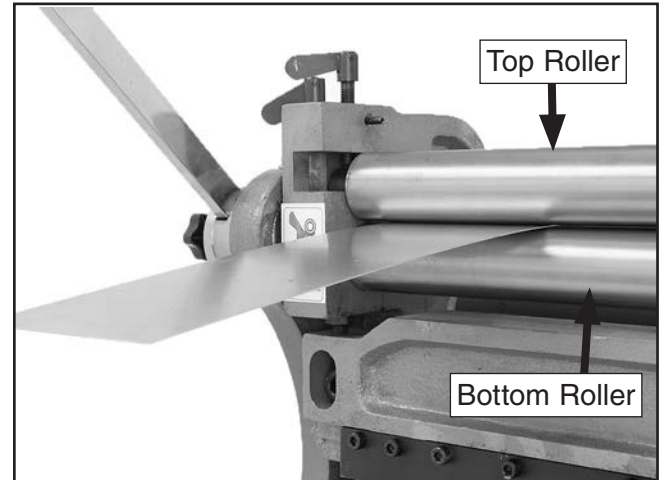

Figure 19. Sheet metal inserted between the top and bottom rollers.
4. While rotating the work lever, feed the sheet metal between the top and bottom rollers (**Figure 19**) until approximately 1-inch protrudes through the other side.